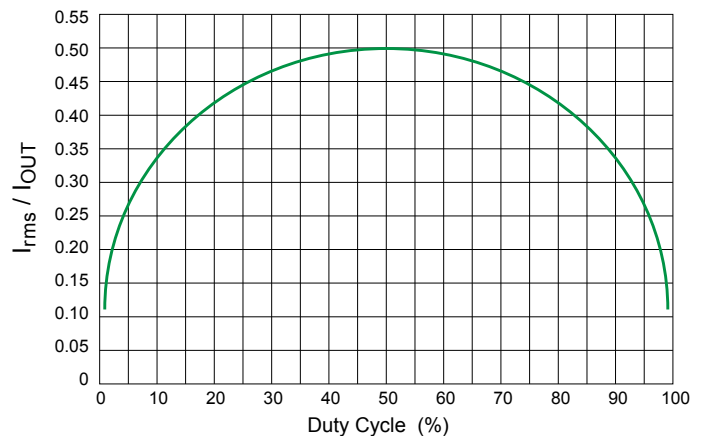

Figure 13: Input Capacitor Ripple versus Duty Cycle
Figure 13 shows the normalized input capacitor rms current versus duty cycle. To use this graph, simply find the operational duty cycle (D) on the x-axis and determine the input/output current multiplier on the y-axis. For example, at a 20% duty cycle, the input/output current multiplier is 0.40. Therefore, if the regulator is delivering 3.0 A of steady-state load current, the input capacitor(s) must support 0.40×3.0 A, or 1.2 A_{rms}.